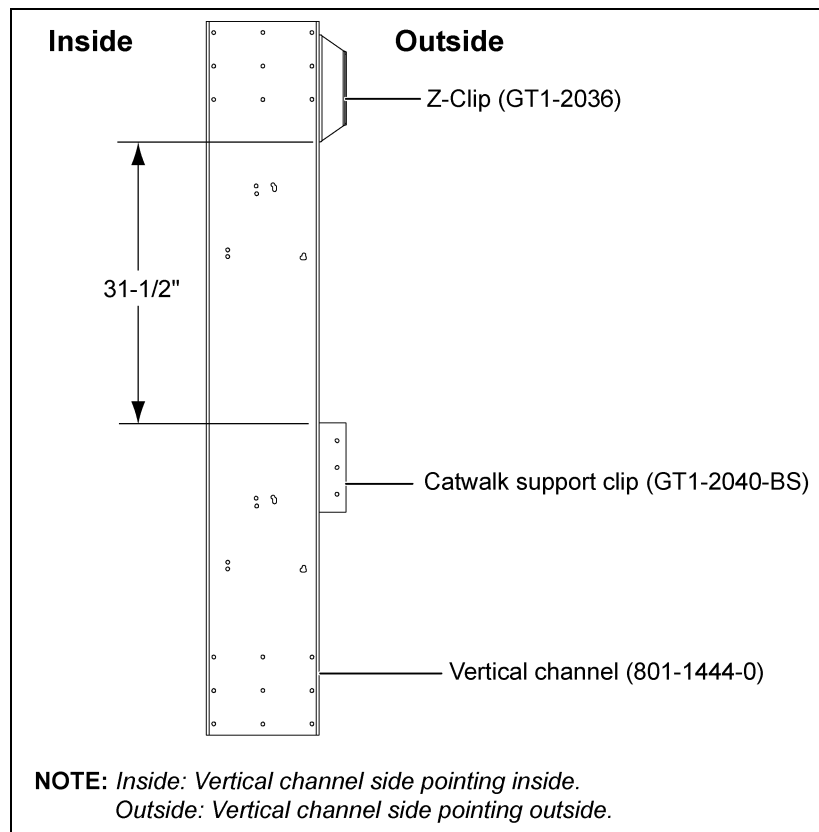

**Figure 6H**
2. The distance between the Z-clip and support clip for 17' offset and roof hatch platform is 31-1/2". *(See Figure 6H below and Figure 6J on Page 52.)*